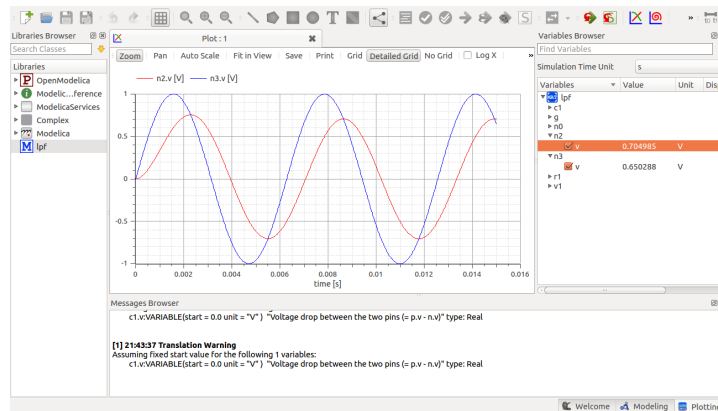

Figure 12.7: OpenModelica: Simulation
7. A plotting window opens. Click on the node at the right to display the waveform. The window is shown in Fig. 12.7.